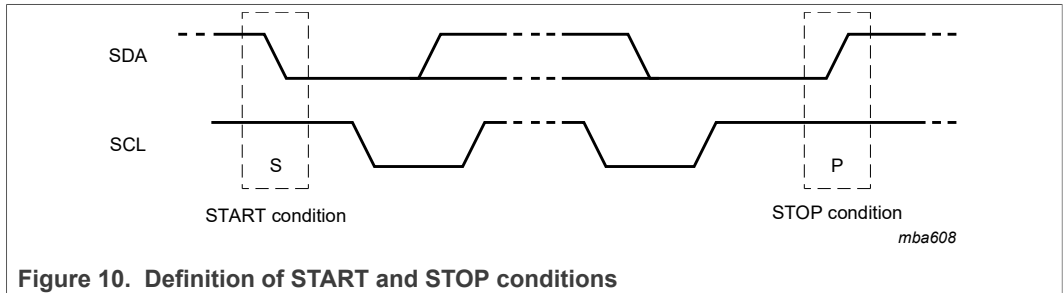

Figure 10. Definition of START and STOP conditions
Both data and clock lines remain HIGH when the bus is not busy. A HIGH-to-LOW transition of the data line while the clock is HIGH is defined as the START condition (S). A LOW-to-HIGH transition of the data line while the clock is HIGH is defined as the STOP condition (P) (see Figure 10).